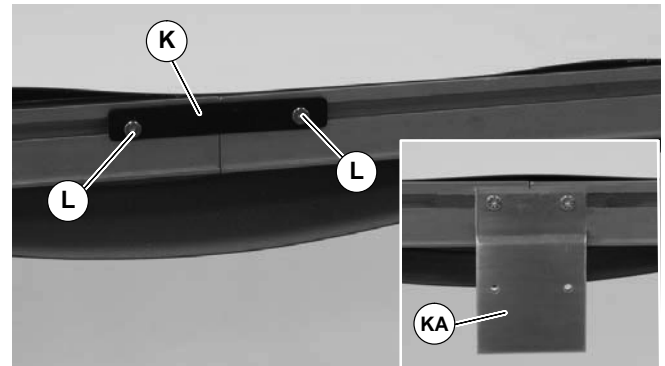

Figure 5
5. Join conveyor sections and install connector brackets (K of Figure 5) or connector/mount brackets (KA) and screws (L) on both sides as indicated. Tighten screws to 60 in-lb (7 Nm).